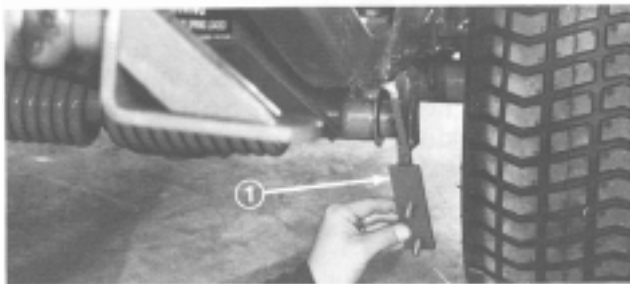

Figure 6
4. Position the belly shield mounting hooks over the hub of the push arm mounting brackets (Fig. 6).